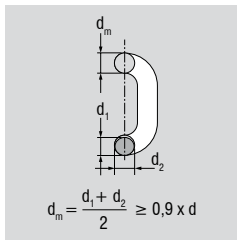

Fig. 13.3: Thickness loss of chain link
- Average thickness loss of the chain link anywhere in the device by $> 10\%$ (Fig. 13.3)